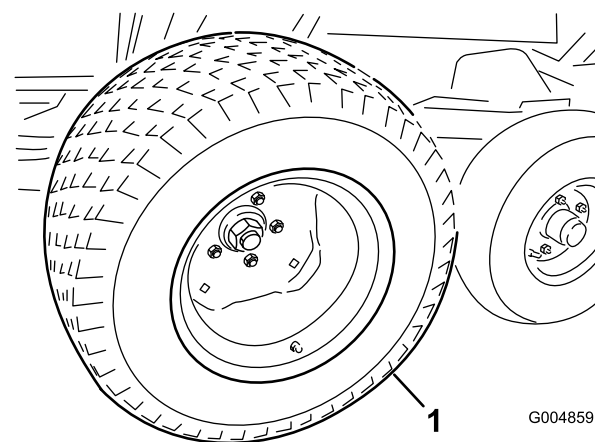

Figure 81
20. Install the summer drive tires with two nuts per tire (Figure 81).